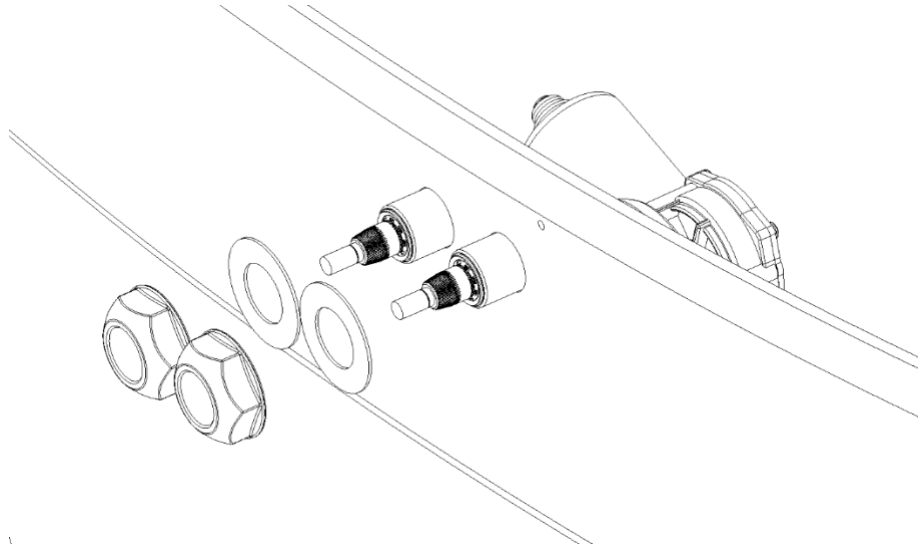

Fig. 2.
5. Install the fiber washers, PN 407-1112 (see figure 2).
6. Install the supplied nuts (see figure 2), and torque to 27.0 ± 2 Nm [20 ± 1.5 ft-lb] (socket available for purchase, PN 344-1003).